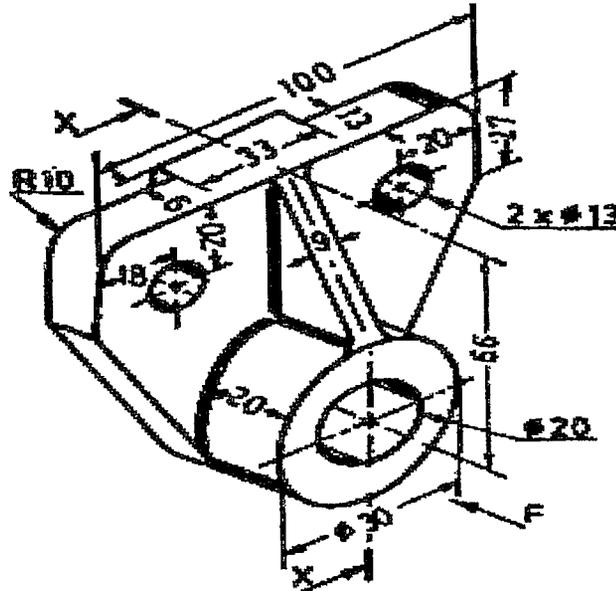

Figure 1
I. (a) Draw the front view of the wall bracket shown in the Figure 1.